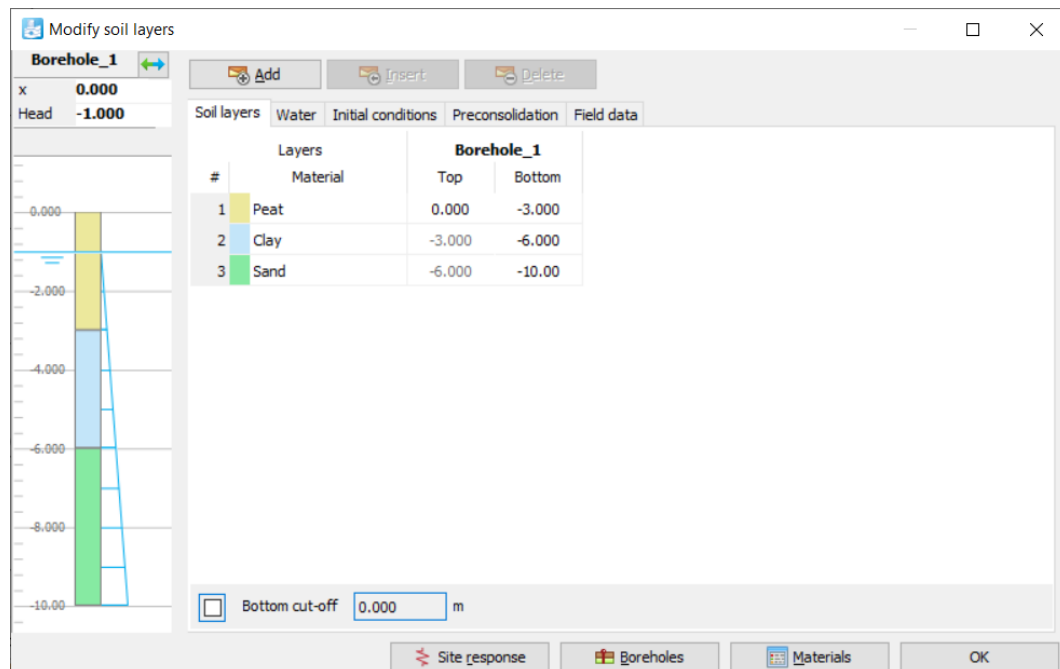

Figure 107: Soil layer distribution
The **Modify soil layers** window pops up as shown in Figure 107 (on page 127).
2. Create soil material data sets according to Table 20 (on page 128) and assign them to the corresponding layers in the borehole (see Figure 107 (on page 127)).